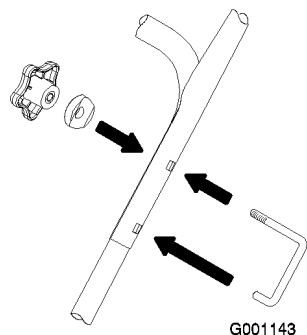

Figure 4
3. Loosely install the handle bolts, curved washers, and knobs (Figure 4).